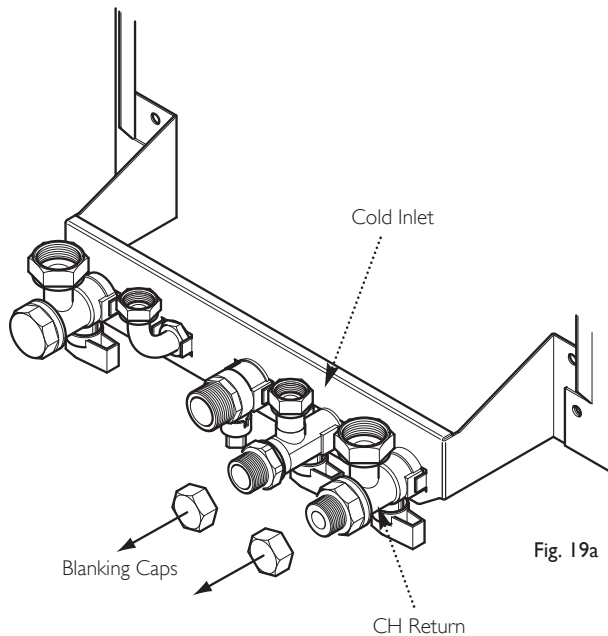

Fig. 19a
1. Turn off the cold mains inlet and heating return taps and remove their blanking caps (Fig. 19a). It is also recommended that the installation is isolated from the mains cold water supply.